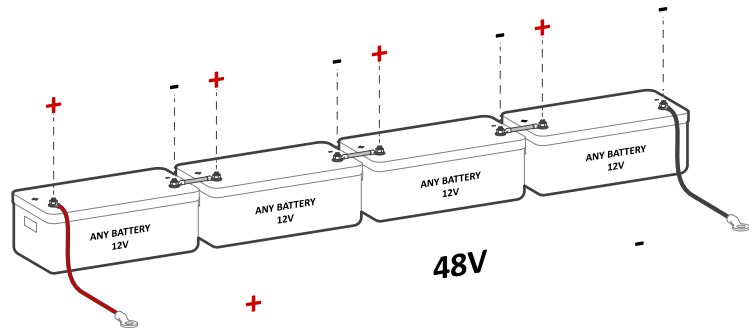

Figure 5b: 12V batteries in series connection
⚠ Sol-Ark 8K-2P-N is a **48V nominal system**. **DO NOT** connect the inverter to any other battery configuration. If you use 12V batteries, you **MUST NOT** exceed four (4) batteries in series, as shown in Figure 5b. The inverter can work with any battery chemistry as long as it remains within the range of **43V to 63V**.